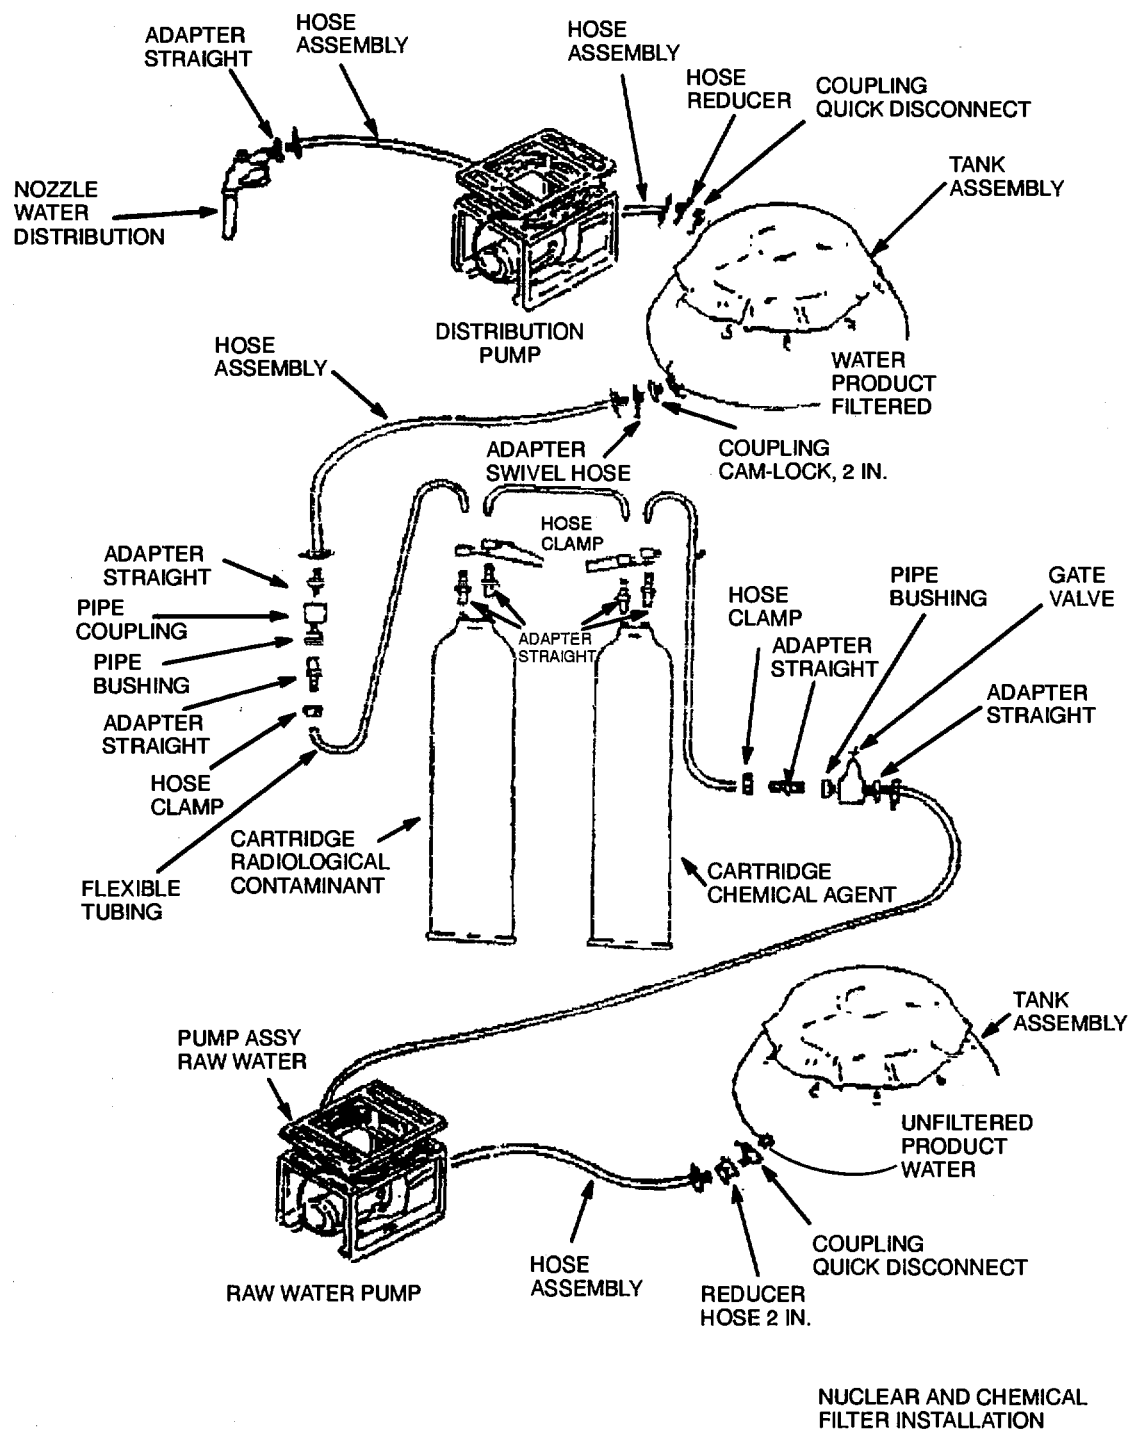

FIGURE 2-78. NUCLEAR AND CHEMICAL FILTER INSTALLATION
c. Exchange the inlet and outlet raw water pump adapter which is used in the NBC system and prepare to assemble NBC filters between two raw water tanks as shown in (figure 2-78).
d. Use one of the raw water pumps to force the water through the NBC cartridges. Install raw water pump (figure 2-78).
- (1) Install 1 1/2 in. suction hose from raw water tank and swivel adapter on raw water pump.
- (2) Attach female end of distribution (suction or discharge) hose to straight adapter on raw water pump.
- (3) Attach swivel adapter to gate valve and attach male end of distribution hose to swivel adapter.
- (4) Attach shoulder bushing and adapter to gate valve.
The NBC cartridges should be positioned so that the cartridge marked "FOR USE WITH CHEMICALLY CONTAMINATED WATER ONLY" is FIRST in the series. Position the cartridge marked "FOR USE WITH RADIOACTIVE CONTAMINATED WATER" so that water is filtered through this cartridge LAST as shown in (figure 2-78).
e. Assemble the NBC cartridges in series (figure 2-78).
(5) Cut one section of 3/4 in. x 80 in. flexible tubing to a maximum length of 24 in.
(6) Slide clamp over end of tubing.
(7) Remove plug from OUTLET port on FOR USE WITH CHEMICALLY CONTAMINATED WATER cartridge and insert adapter into cartridge.
(8) Attach tubing to adapter on OUTLET port and close clamp.
- (9) Remove plug from INLET port on FOR USE WITH RADIOACTIVE CONTAMINATED WATER cartridge and insert adapter into cartridge.
- (10) Slide clamp over end of tubing.
- (11) Attach tubing to adapter on INLET port and close clamp.
- (12) Slideclamp over end of second section of 3/4 in. x 8in. flexible tubing.
- (13) Remove plug from OUTLET port on FOR USE WITH RADIOACTIVE CONTAMINATED WATER cartridge and insert adapter.
- (14) Attach tubing to adapter on OUTLET port and close clamp.
- f. Complete connection of NBC cartridge to second raw water tank (figure 2-78).
- (1) Slideclamp over remaining end of 3/4 in. x 80 in. flexible tubing.
- (2) Insert adapter into tubing and close clamp.
- (3) Attach shoulder bushing, pipe coupling, and straight adapter to 1 1/2 in. discharge hose and connect to second raw water tank (figure 2-78).